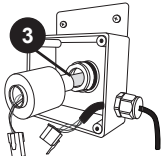

FIGURE 4
- Slowly remove the UV bulb (3) out of the quartz tube, Figure 4.